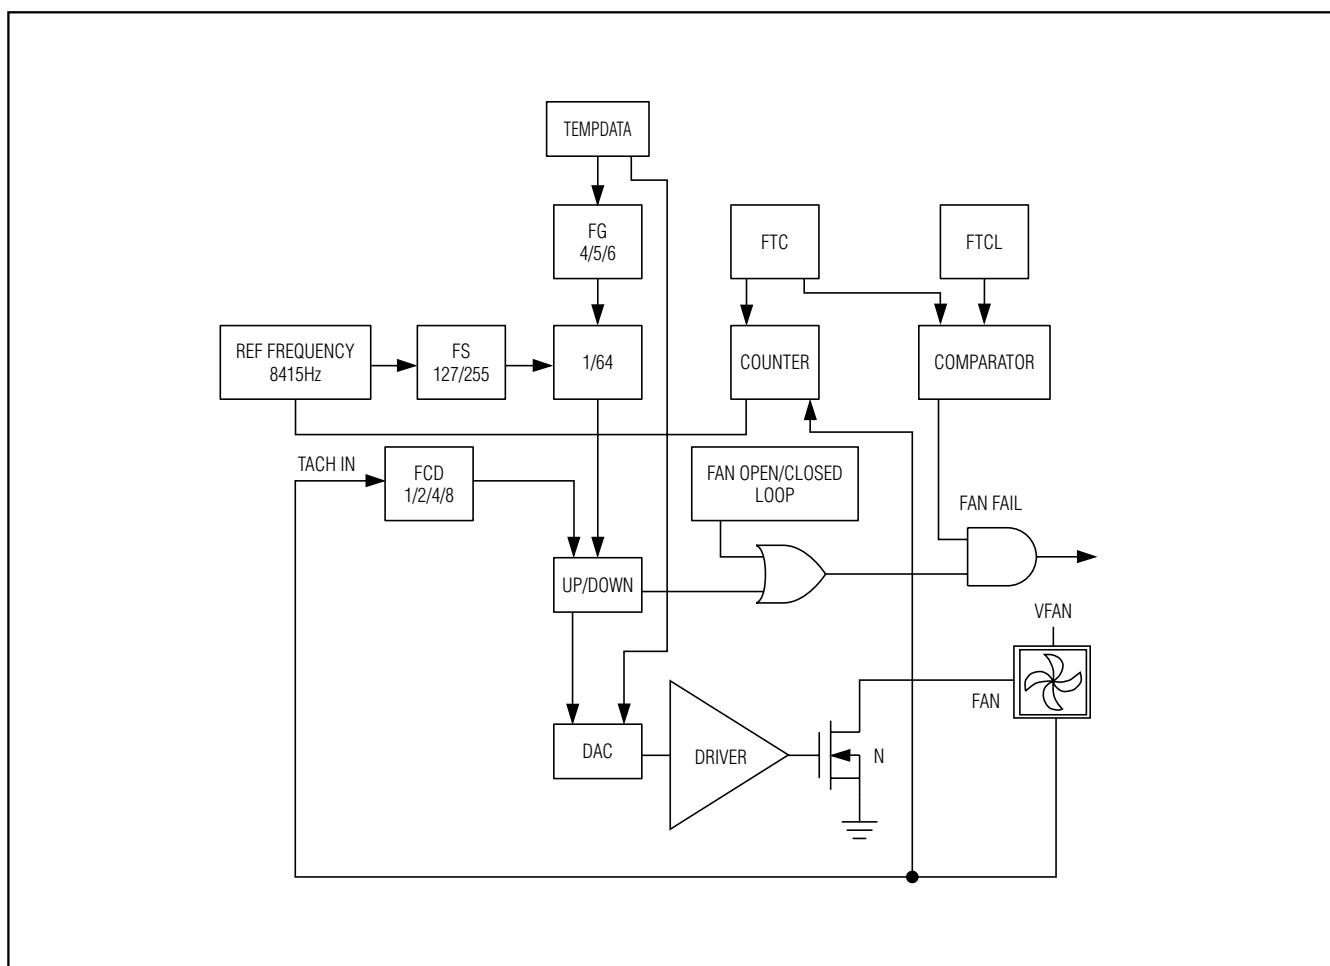

Figure 7. MAX6660 Fan Loop Functional Diagram
The fan controller (Figure 7) is based on an up/down counter where there is a reference clock representing the desired fan speed counting up, while tachometer pulses count down. The reference clock frequency is divided down from the MAX6660 internal clock to a frequency of 8415Hz. This clock frequency is further divided by the Fan Full-Scale (FS) register (Table 11), which is limited to values between 127 to 255, for a